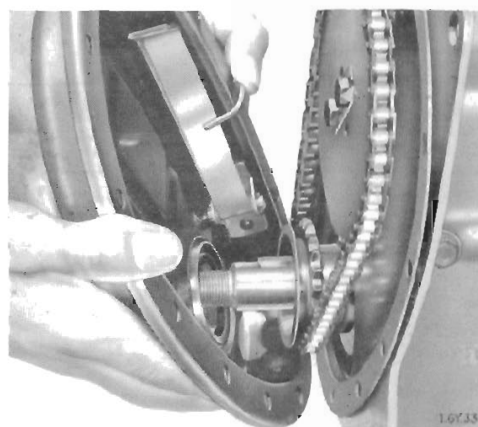

Fig. 72. Fitting timing cover to Herald 1200, 12/50 engine
**Timing Cover (Figs. 72 and 73)**